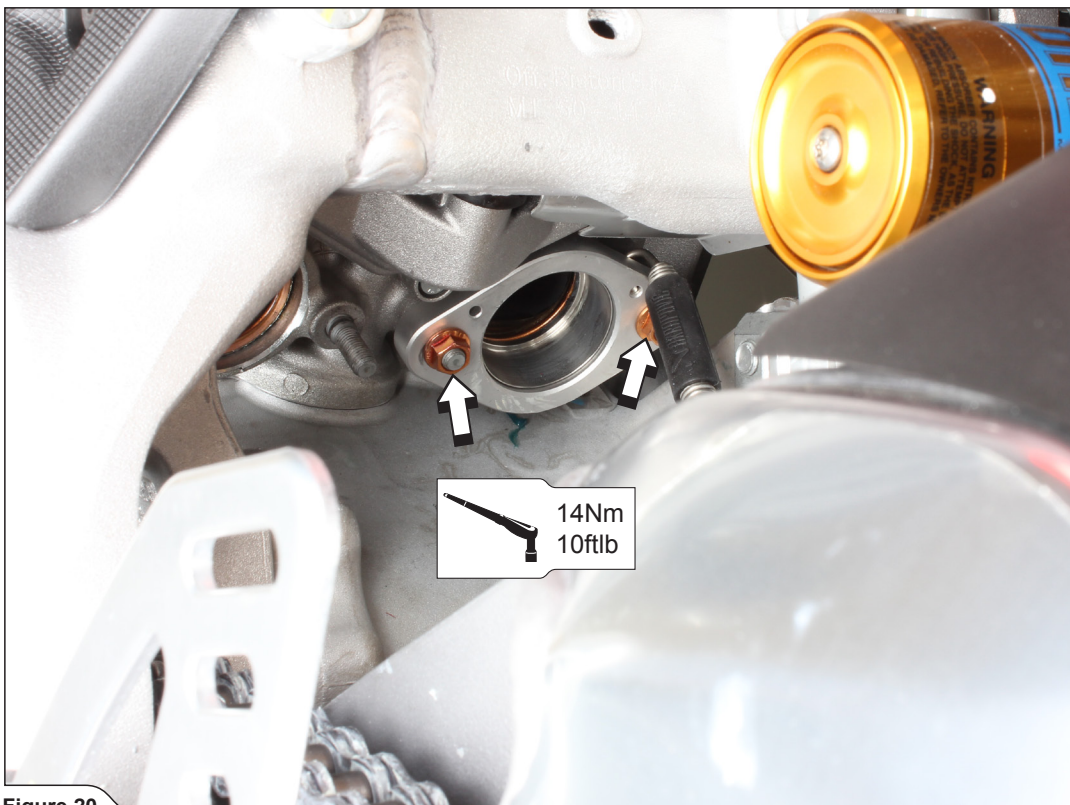

Figure 20
4. Set up and tighten the (**rear right only!**) header's flange together with the spring and sleeve onto the rear right cylinder head outlet, using stock nuts; make sure you orient the flange and spring as shown (**Figure 20**).